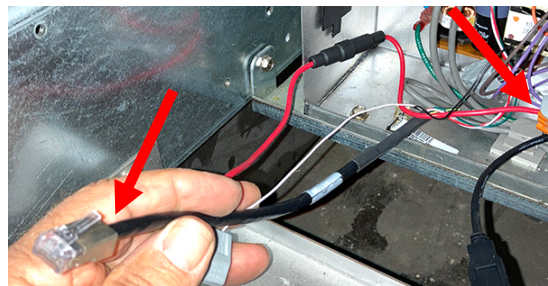
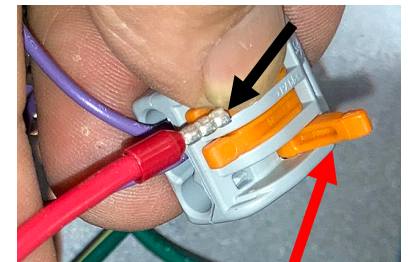

Figure 12
Figure 13
20. Locate the harness with the RJ45 connector and other wires disconnected from the KCCM board in step 17 (see Figure 12).
21. Follow the red wire in Figure 12 to the Wago connector with the red wire and purple wires. Lift up on orange tab to unlock and remove the red wire from the Wago connector (see Figure 13).